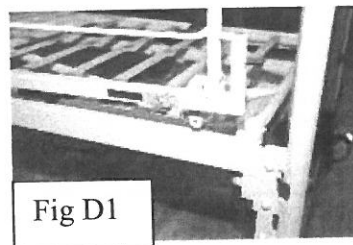

Fig D1
- Remove siderails from any packaging, place the siderail on the outside frame of the bed (with 250mm gap at the foot end of the bed). (Fig D1)